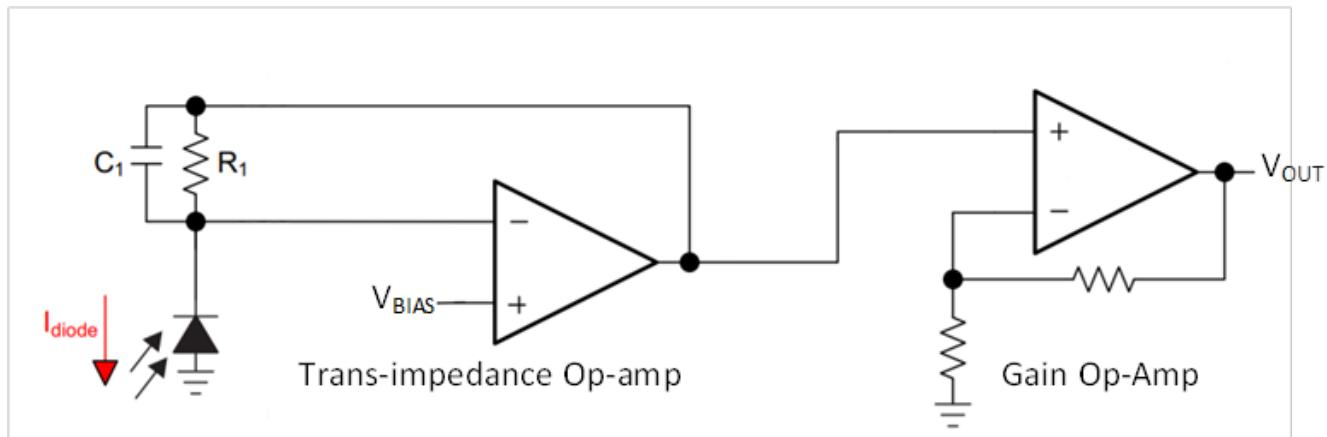

Figure 2. Optical Smoke Detector Working Principle
An optical smoke detector uses an infrared (IR) light-emitting diode (LED) and an IR receiver to detect smoke. The IR receiver detects light from the IR LED and outputs a certain amount of current based on how much IR light it detects. This current feeds into a transimpedance amplifier (shown in Figure 2) to convert the current into a voltage. The voltage feeds into a second-stage amplifier to amplify the signal to a level appropriate for monitoring. When smoke enters the IR chamber, it scatters the IR light and interferes with IR receiver detection. This causes the IR receiver to alter its current output, and ultimately the voltage at the output of the second-stage operational amplifier (op amp). Like an ionization smoke detector, either a comparator or an ADC can monitor this voltage change to detect smoke.